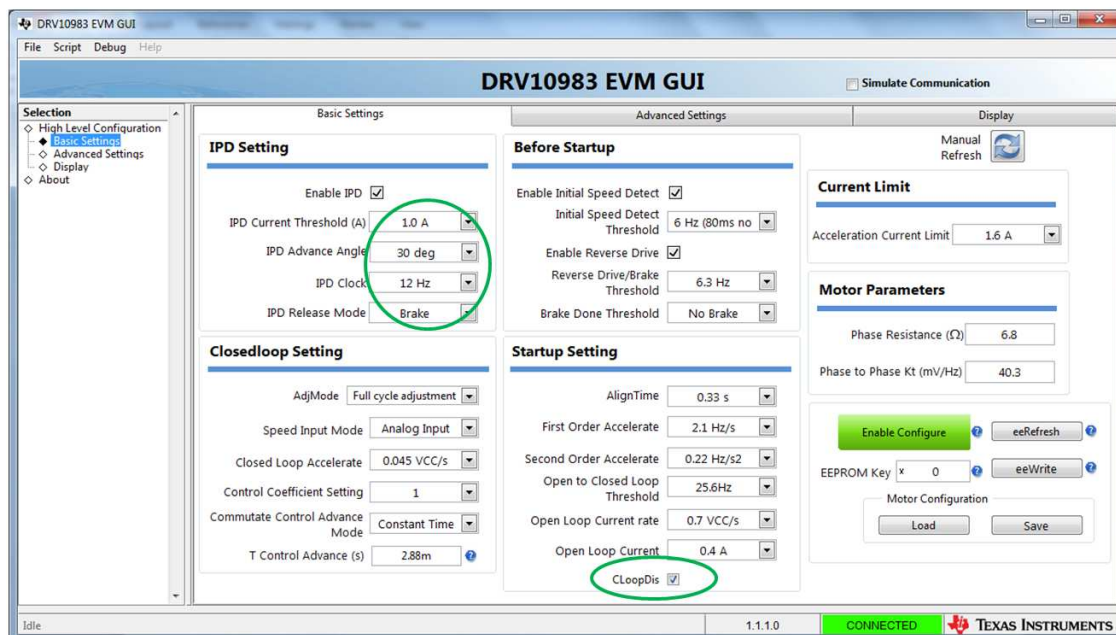

Figure 26. DRV10983x/75 EVM GUI Screenshot
2. Set current threshold to 1 A, based on Equation 4 and other IPD related parameters as shown in Figure 26. Also disable close-loop operation.